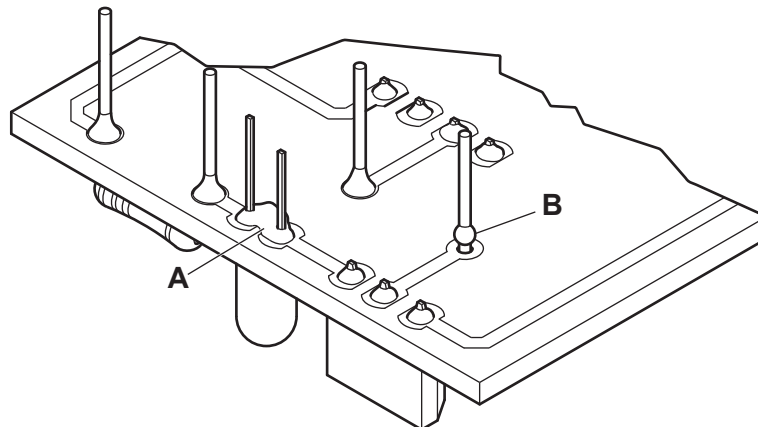

Fig. 12.1
- (ii) Fig. 12.1 shows two examples, **A** and **B**, of faulty soldering on a circuit board.